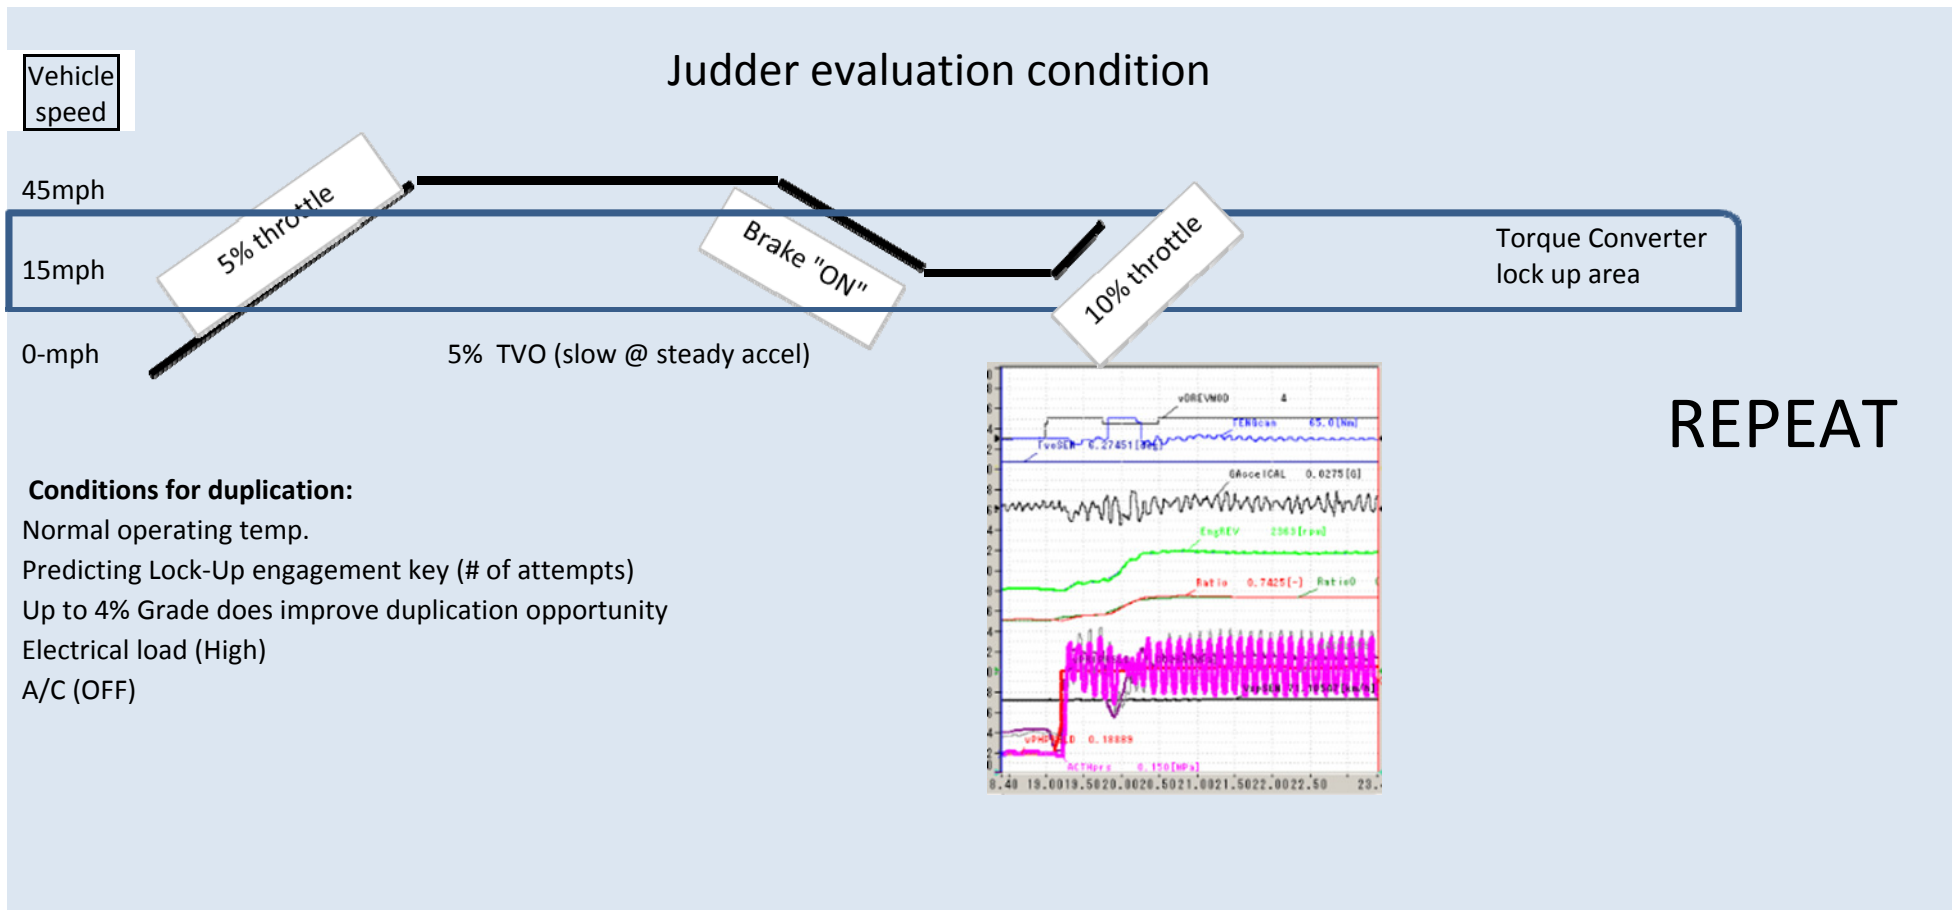

Figure 8
- Figure 8, on the next page, illustrate conditions under which judder can be reproduced.
- Figure 8 below illustrates conditions under which judder can be reproduced.